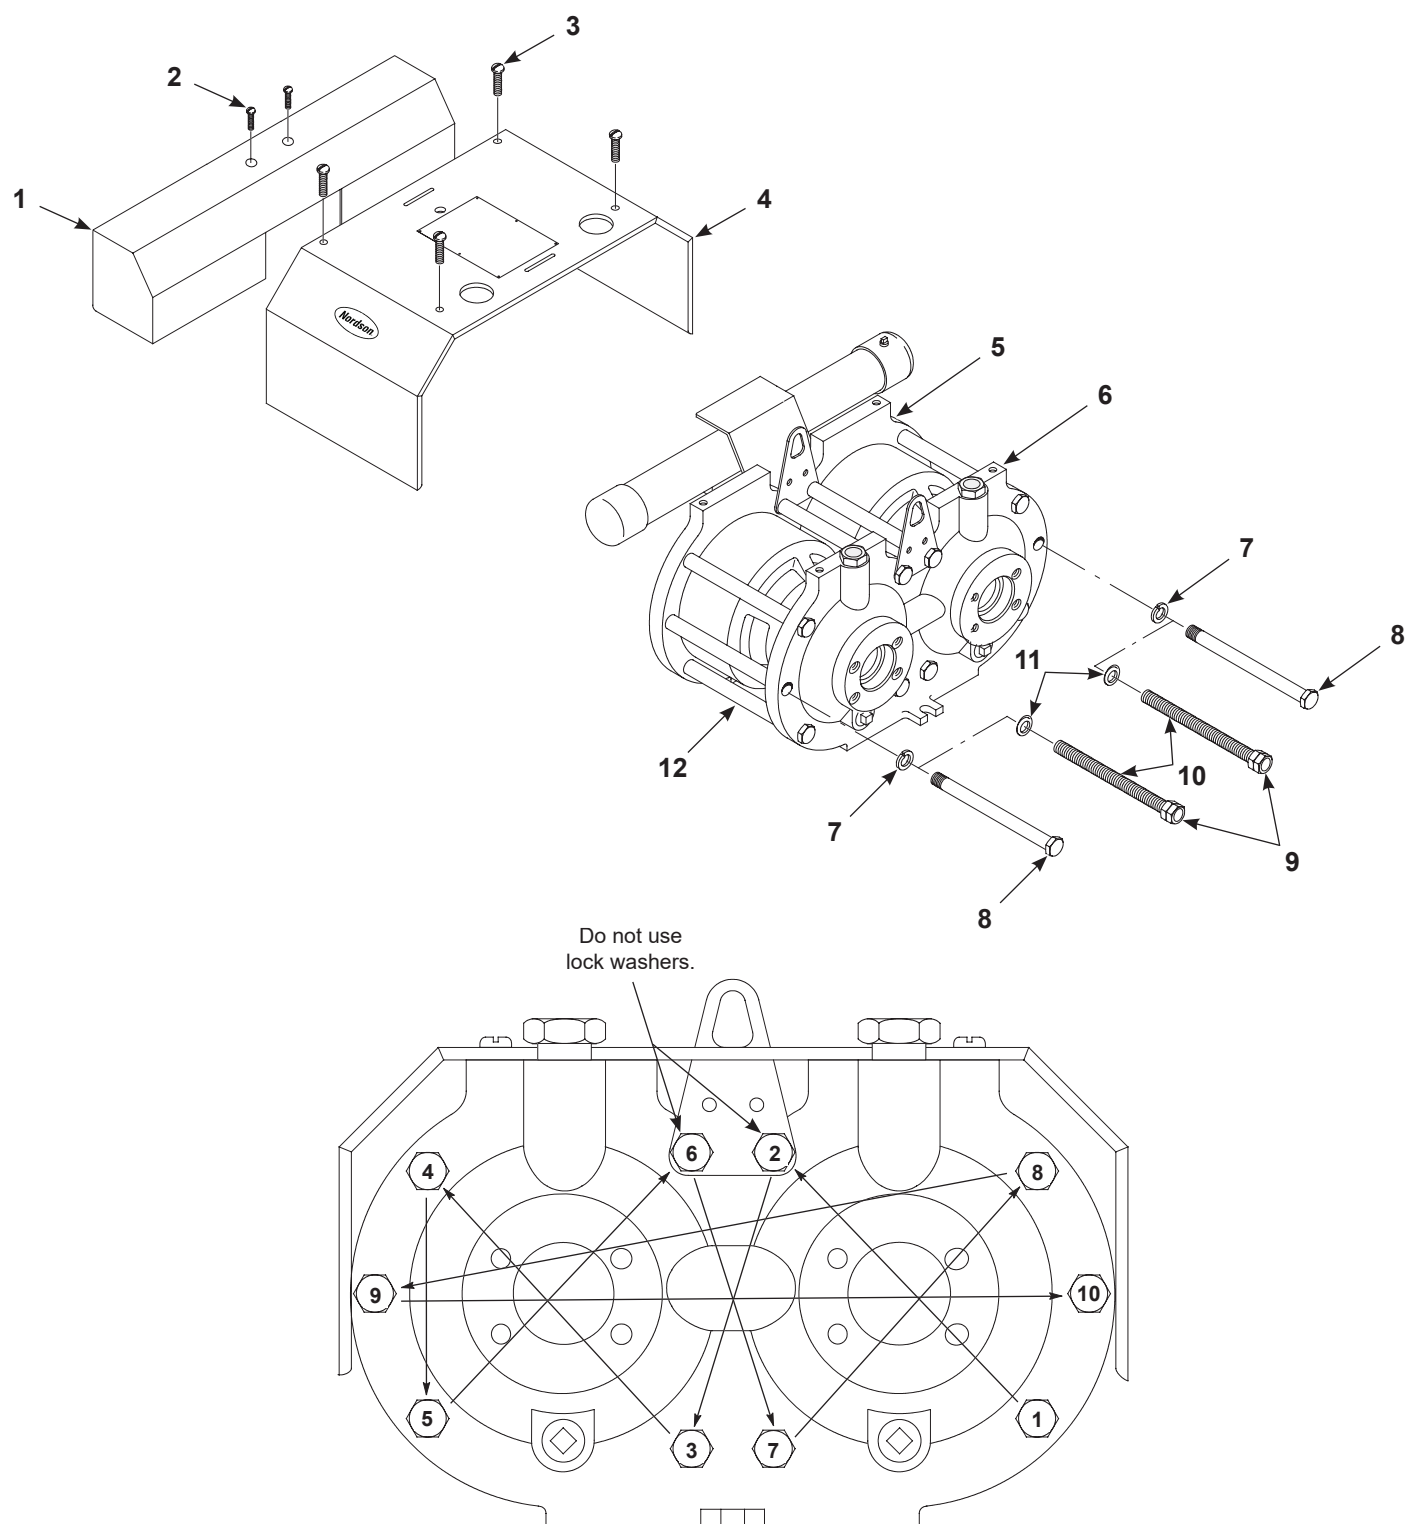

Figure 6-8 Air Motor Assembly
1. See Figure 6-8. Thread the spring removal studs (10) and washers (11) through the solvent chamber (6), spacers (12), and into the upper head (5) as illustrated. Tighten the nuts (9) until snug.
**NOTE:** Two screws (Figure 6-8, positions 2 and 6) do not use lock washers.
4. Remove the spring removal studs (10) and install the lock washers (7) and screws (8). Tighten all screws to 41- 47 N•m (30- 35 ft-lb). See Figure 6-8 for the proper tightening and torquing pattern.
5. Install the cover plate (4) onto the pump. Tighten the cover plate screws (3) securely. Install the accumulator cover (2) onto the pump. Tighten the accumulator cover screws (1) securely.